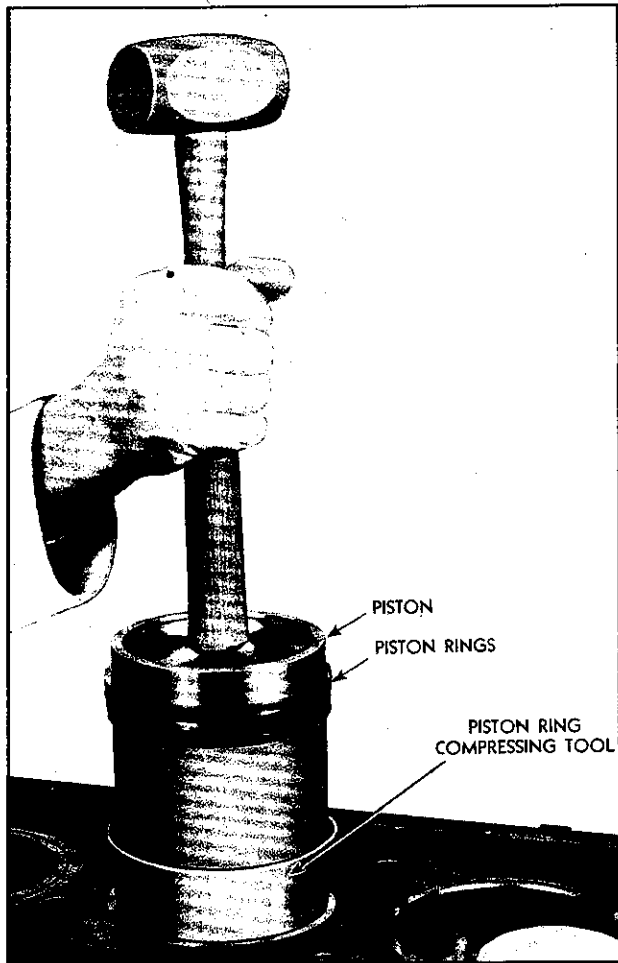

Fig. 10—Installing Piston in Cylinder Bore with Tool to Compress Piston Rings.
1. Stagger the piston ring gaps around the piston, apply some clean engine oil to piston and rings, then slide a piston ring compressor tool, KMO-231, over the lower end of the piston skirt, with flared end toward top of piston (see Fig. 10). Turn the piston and rod assembly so that the identification mark on lower end of the connecting rod is toward the blower side of the cylinder block.